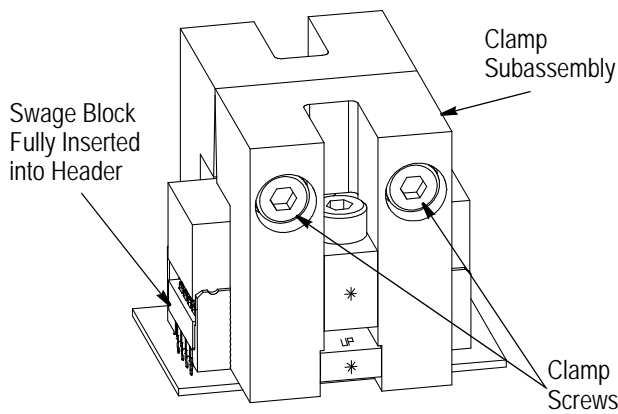

Figure 5
6. Make sure the swage block is fully inserted into the header and tighten the clamp screws. The recommended torque for the clamp screws is 2 N-m [18 in.-lbs]. See Figure 5.